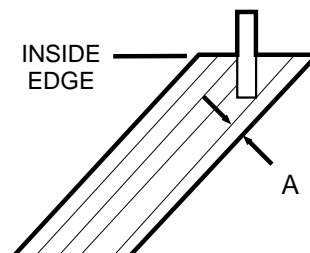

FIG. 27
- C. Clamp the workpiece and align the tool as shown in Figure 27.